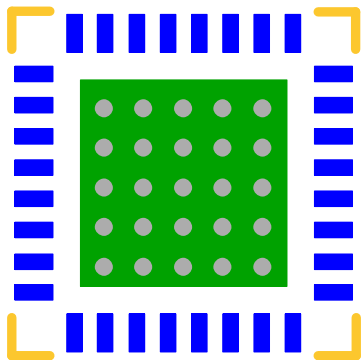

FIGURE 67. RECOMMENDED LAYOUT PATTERN FOR VIAS IN THE IC BOTTOM PAD
6. Place multiple vias under the bottom pad of the IC. Connect the bottom pad to the ground copper plane with as large an area as possible in multiple layers to effectively reduce the thermal impedance. Figure 67 shows the layout example for vias in the IC bottom pad.